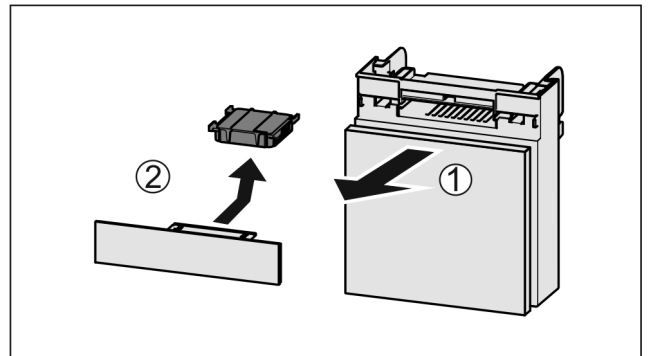

Fig. 129
- ▶ Pull out the compartment Fig. 129 (1).
- ▶ Remove the carbon filter Fig. 129 (2).